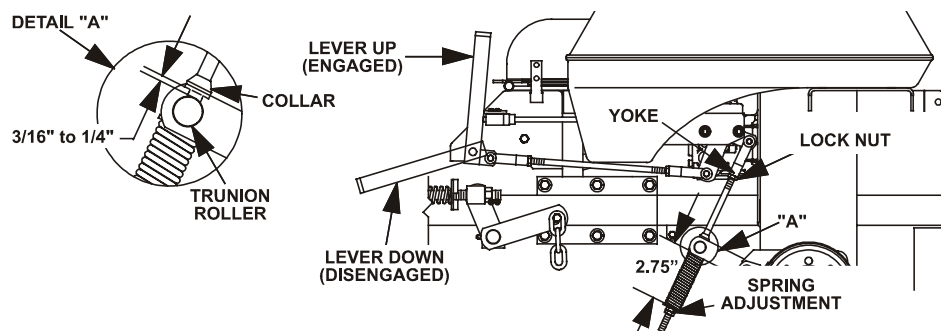

FIG. 14
- b) Measure the length of the spring. Measurement should be 2.75" between washers (see Fig 14).
- c) Measure the distance between the trunion roller and the rod collar. Measurement should be 3/16" to 1/4" (See Fig 14).
- d) If adjustment is necessary, loosen the nut directly below the yoke. Turn the bottom nut (below washer) until the correct measurement is obtained (See Fig 14) turn nut clockwise to lengthen the gap (screws rod into yoke) and turn counter-clockwise to shorten the gap (screws rod out of yoke). Tighten nut against yoke and check opposite side of unit, repeat if necessary.